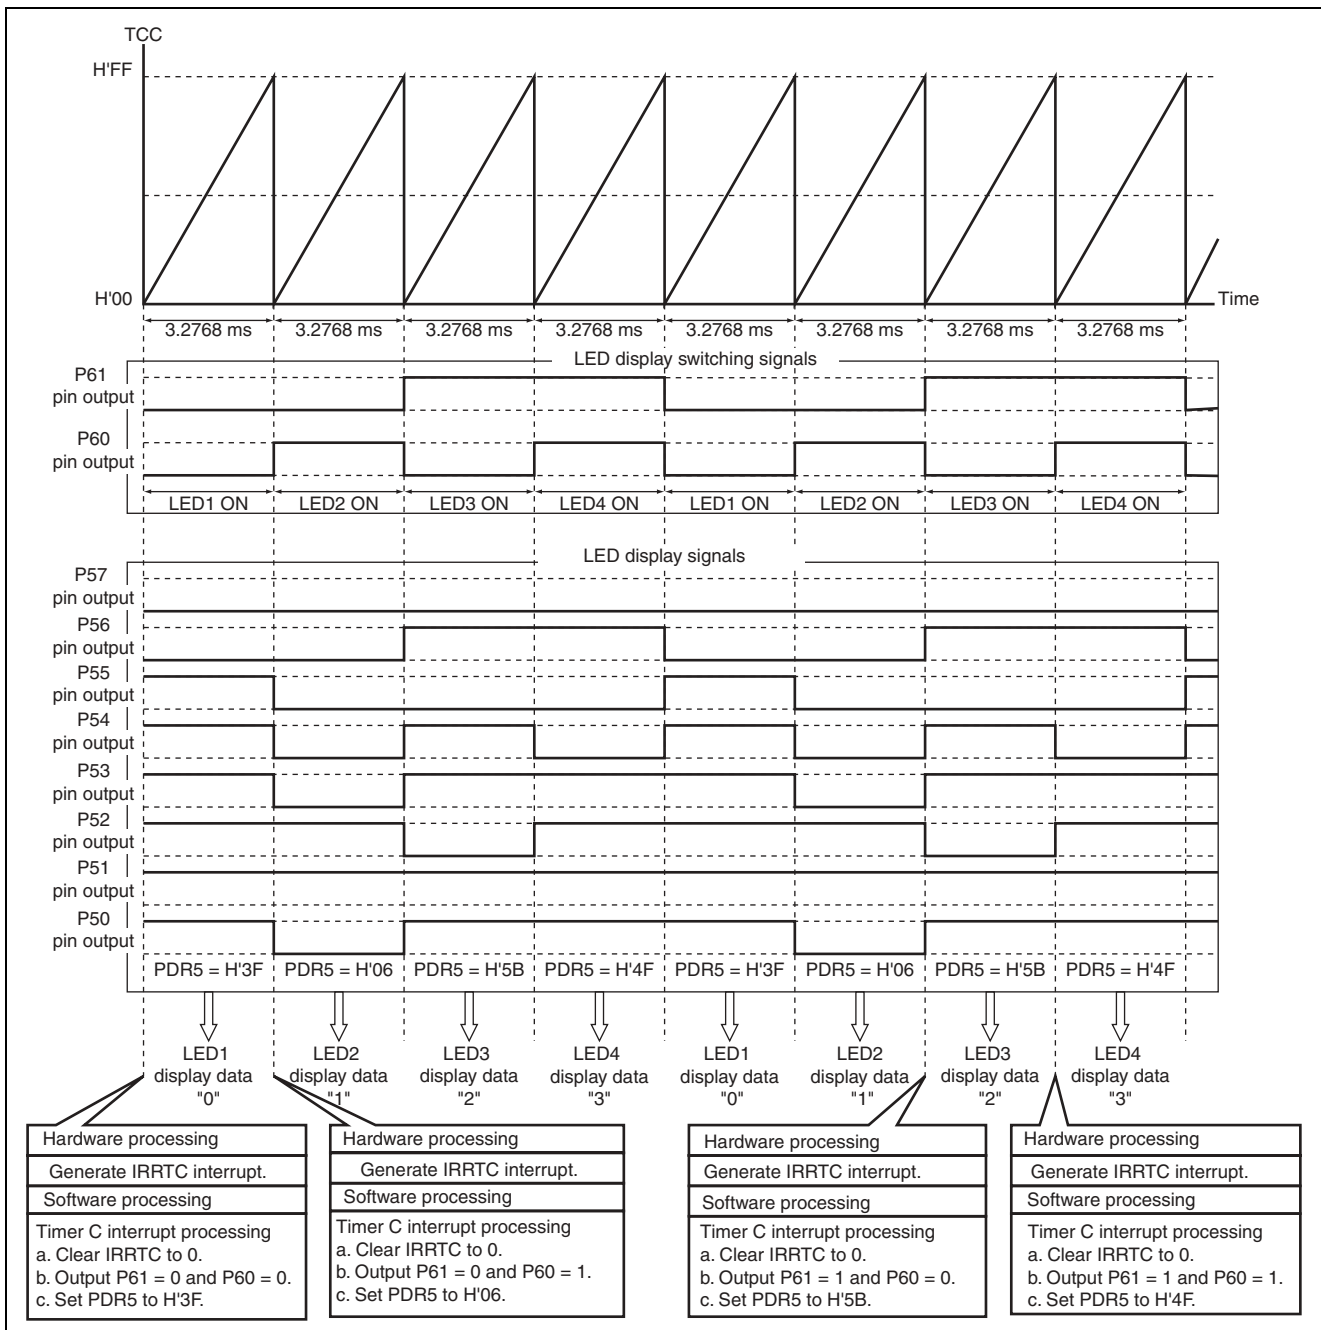

Figure 3.2 Operation Principle of 7-Segment LED Display Control
2. The principle applied in controlling the 7-segment displays is explained below. Figure 3.2 depicts the situation where 3210 is being displayed on LED4 to LED1. As the figure shows, the next display in sequence of LED1 to LED4 is lit up each time a timer-C overflow period elapses, creating a dynamic display on the 7-segment LEDs.